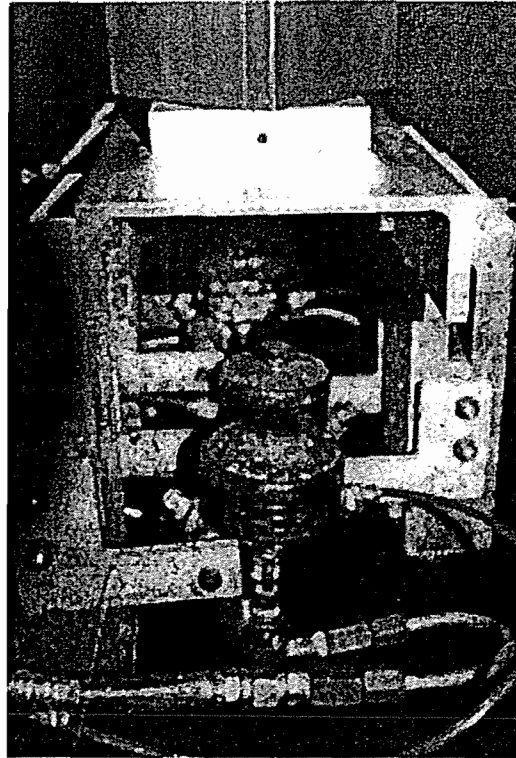

Figure 2.10.1: Gantry Guns
2.10.2 Place a bucket underneath the gun outlets of the Gantry End Effector (Figure 2.10.1)